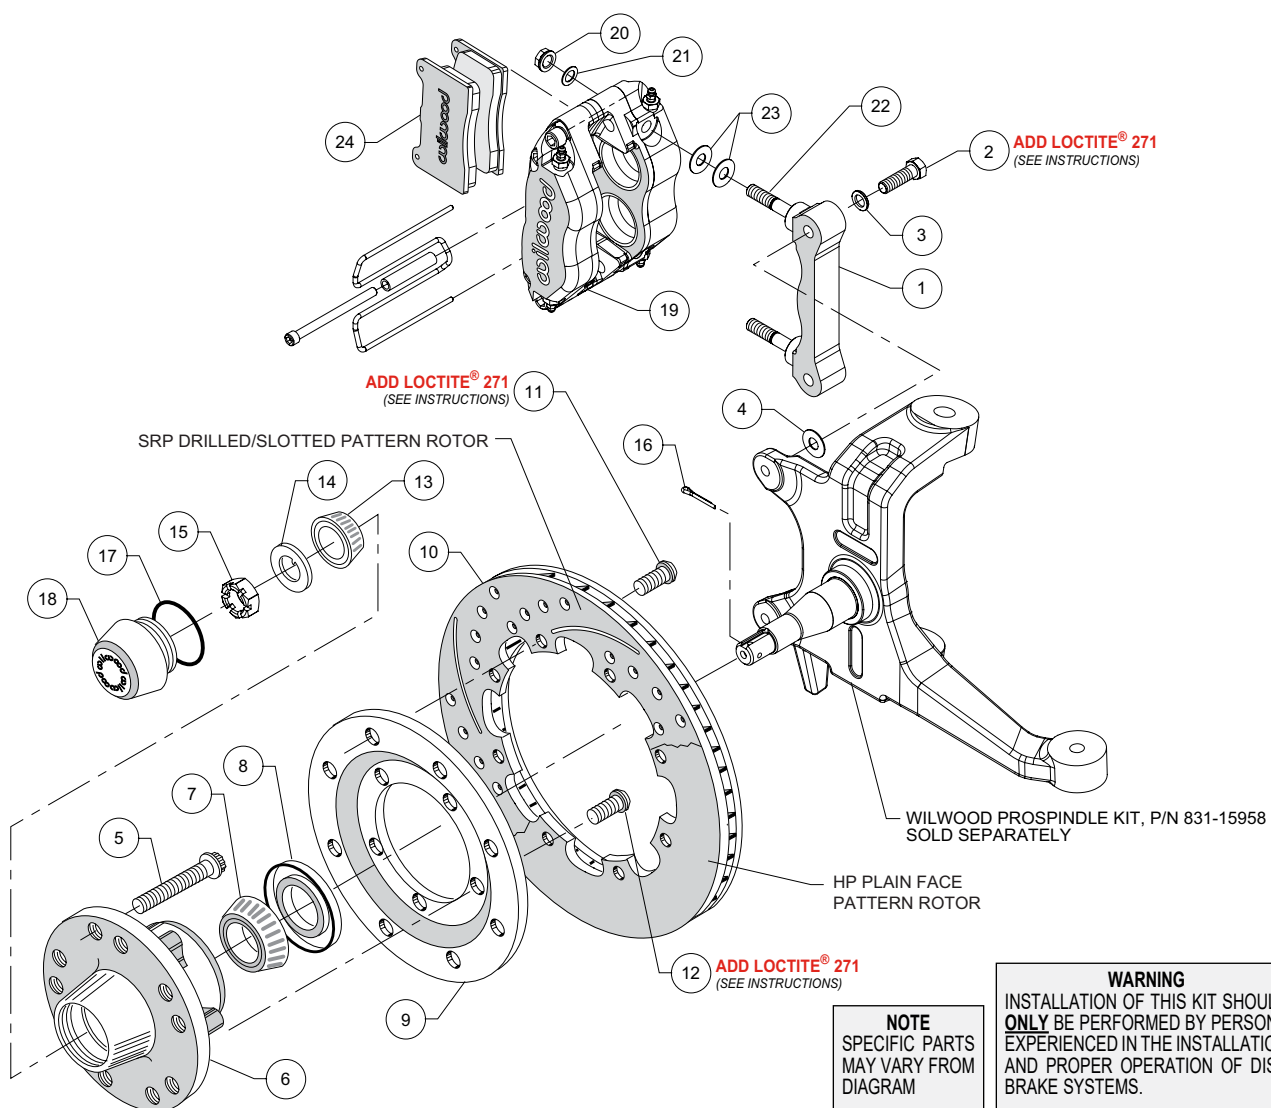

Figure 1. Typical Installation Configuration
NOTE: Numbers in parenthesis refer to the parts list and Figure 1 on the preceding pages.
•The caliper mount bracket (1) should initially be installed with clean, dry threads on the mounting bolts. Orient the bracket as shown in Figure 1 and Photo 1, and install using bolts (2) and washers (3). Initially place one .035 thick shim (4) on each bolt between the bracket and spindle, Figure 1. Temporarily tighten the mounting bolts. **NOTE:** *The bracket must fit squarely against the mounting points on the spindle.* Inspect for interference from casting irregularities, machining ridges, burrs, etc. Later, after the caliper alignment has been checked, the mount bolts will be secured using red *Loctite*® 271.
•Pack the large inner bearing cone (7) with high temperature disc brake bearing grease (available from your local auto parts store) and install into the backside of the hub (6), Photo 3.
•Install the grease seal (8) by pressing into the backside of the hub (6), flush with the end of the hub, Photo 3.
•Orient the rotor (10) and the rotor adapter (9) as shown in Figure 1 and Photo 4. Attach the rotor to the adapter using bolts (11). Using an alternating sequence, apply red *Loctite*® 271 to the threads, and torque to 25 ft-lb.
- Initially place two .035" thick shims (23) on each stud (22) between the caliper and the bracket, as shown in Figure 1 and Photo 8. Mount the caliper (19) onto the bracket (1) using lock nuts (20) and washers (21), Figure 1. Temporarily tighten the lock nuts and view the rotor through the top opening of the caliper. The rotor should be centered in the caliper, Photo 9. If not, adjust by adding or subtracting shims (4) between the bracket and the spindle. Always use the same amount of shims on each of the two mounting bolts. Once the caliper alignment is correct, remove the bracket mounting bolts (2) one at a time, apply red *Loctite*® 271 to the threads, and torque to 40 ft-lbs.
- Insert the brake pads (24) into the caliper with the friction material facing the rotor (10), as shown in Figure 1 and Photo 10. Check that the top of the brake pad is flush with the outside diameter of the rotor, Photo 11. If not, adjust by adding or subtracting shims (23) between the caliper and the bracket. After the caliper pad height is set, torque the caliper lock nuts (20) to 30 ft-lb. Secure the pads in place using the pad clip retainer as well as the center bridge pad retainer tube, bolt, and locknut, Photo 12. The locknut should be snug without play in the bolt or tube. Be cautious not to over tighten.